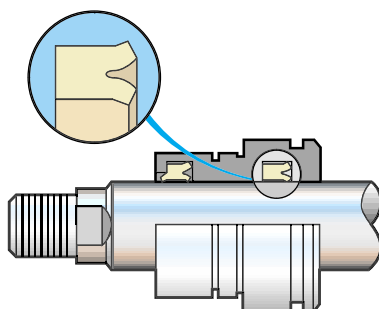

Figure 3-3
- Urethane "Ultra-Seal" standard through 8" rod diameters on N5 cylinders providing the optimum in long life and sealing up to 200°F (see Fig. 3-3)